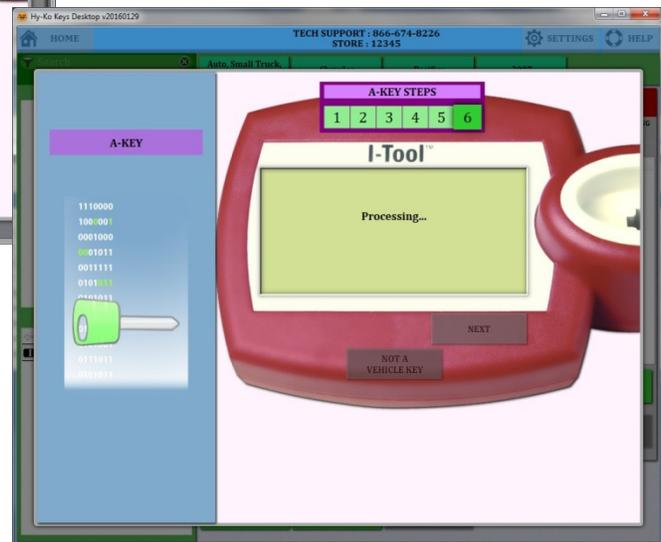

fig. 96
- The I-Tool will begin the process of writing the new code to the new key (see fig. 96).